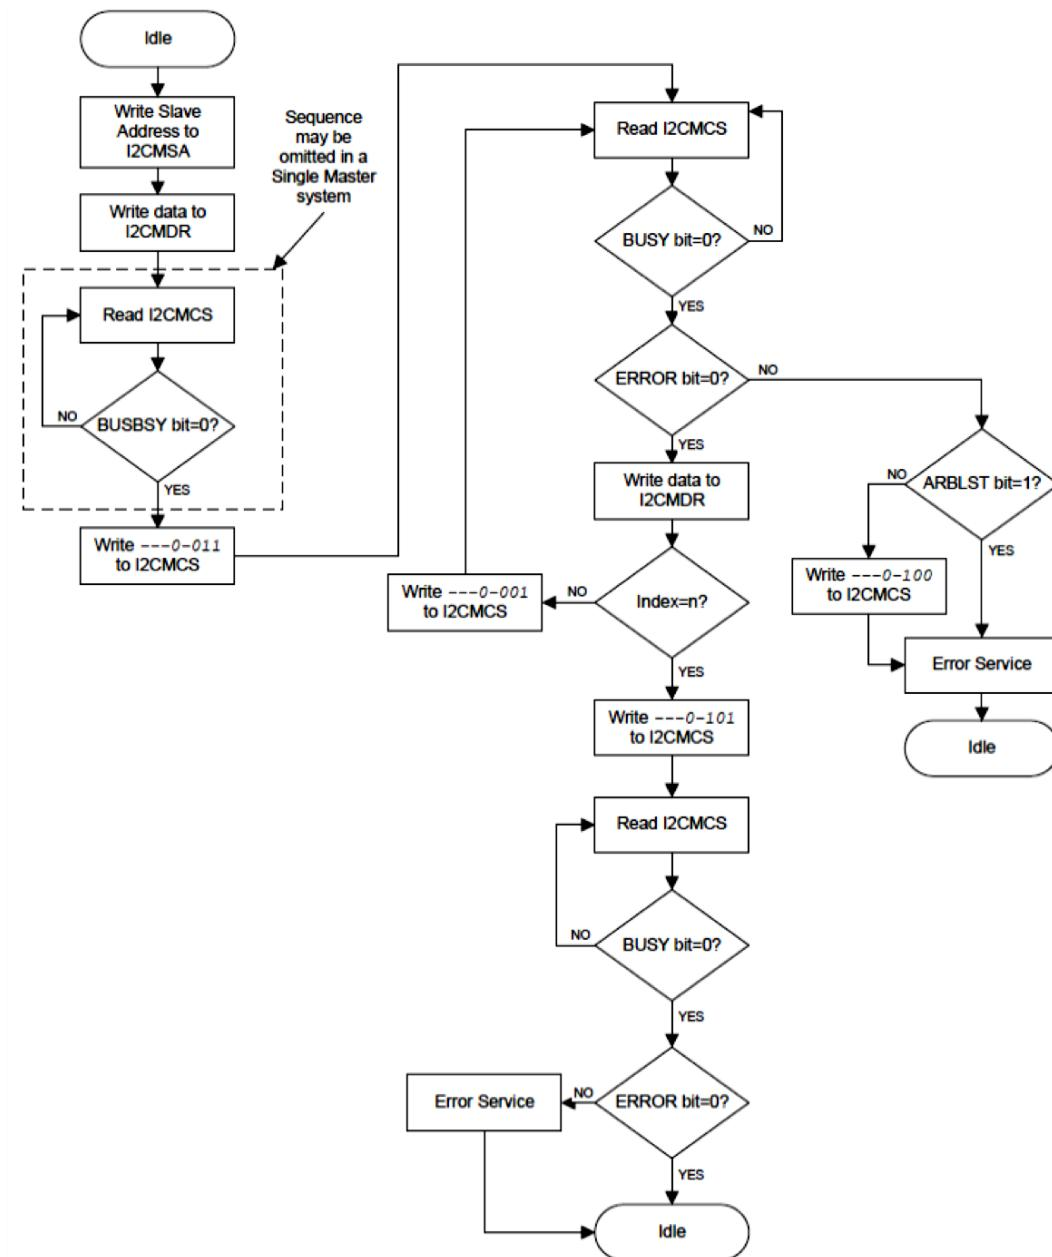

Figure 8.46 The operational sequence of the master working in the transmit mode.
- Figure 8.46 (next slide) shows the operational sequence for the I2C master working as a transmitter.